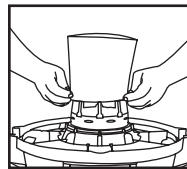

FIGURE 28
44. With tank cover in an upside down position, slide foam sleeve down over lid cage pulling until foam sleeve completely covers lid cage. **FIGURE 28.**